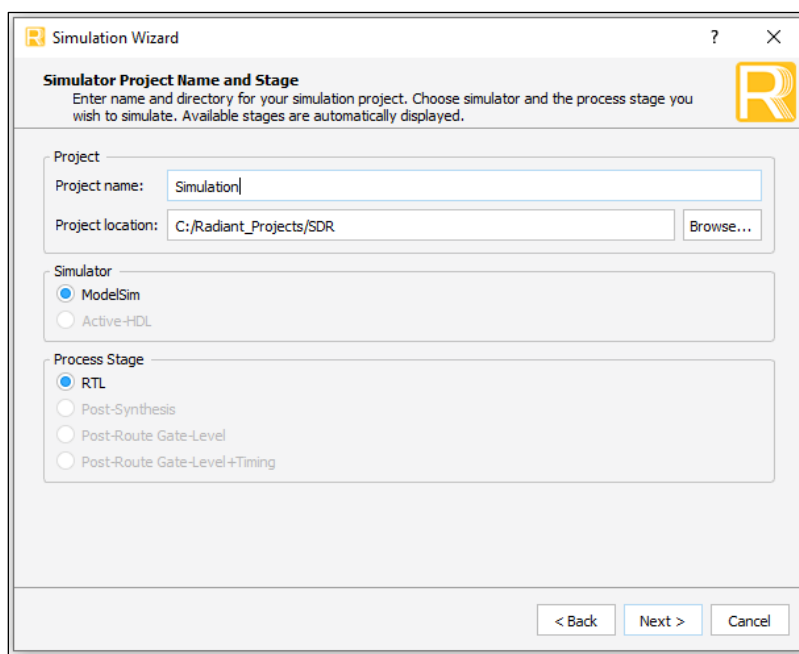

Figure 3.4. Simulation Wizard
- Click the  button located on the **Toolbar** to initiate **Simulation Wizard**, as shown in Figure 3.4.